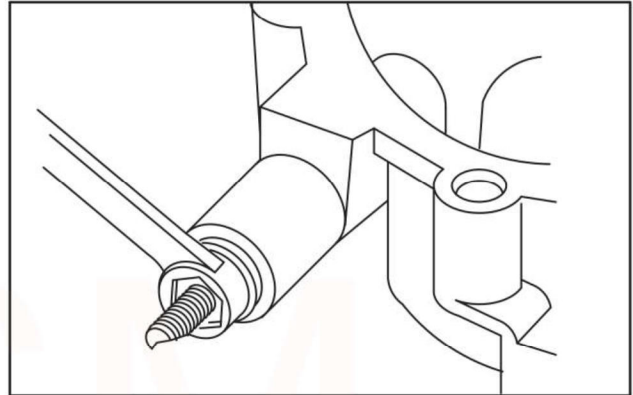

Fig. 11 – Remove Governor Shaft Bushing
- a. Tighten nut until bushing is removed, Fig. 11.